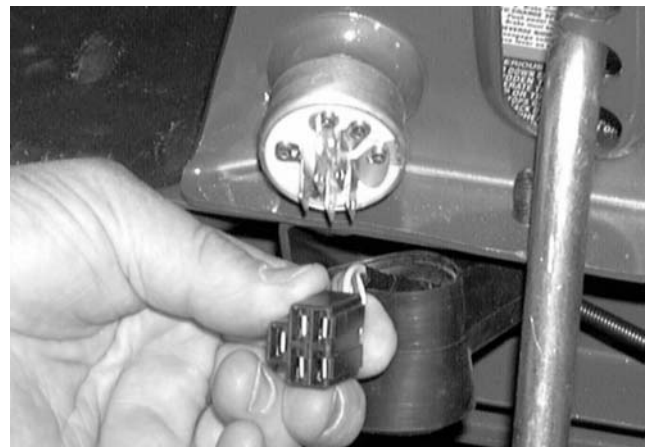

Figure 8-83.
2. Locate the ignition switch and remove the wiring harness connector. See Figure 8-83.